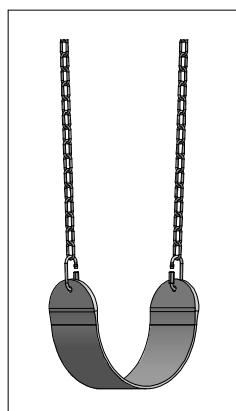

FIG. 1
ATTACH FB SWING SEAT TO (2) EZ CHAINS USING (2) FA QUICK LINKS, AS SHOWN (FIG. 1). REPEAT PROCESS TO ASSEMBLE SECOND SWING ASSEMBLY. NOW, ATTACH EZ CHAINS TO SWING HANGER QUICK LINKS ALREADY ASSEMBLED TO THE SWING BEAM (FIG. 2).